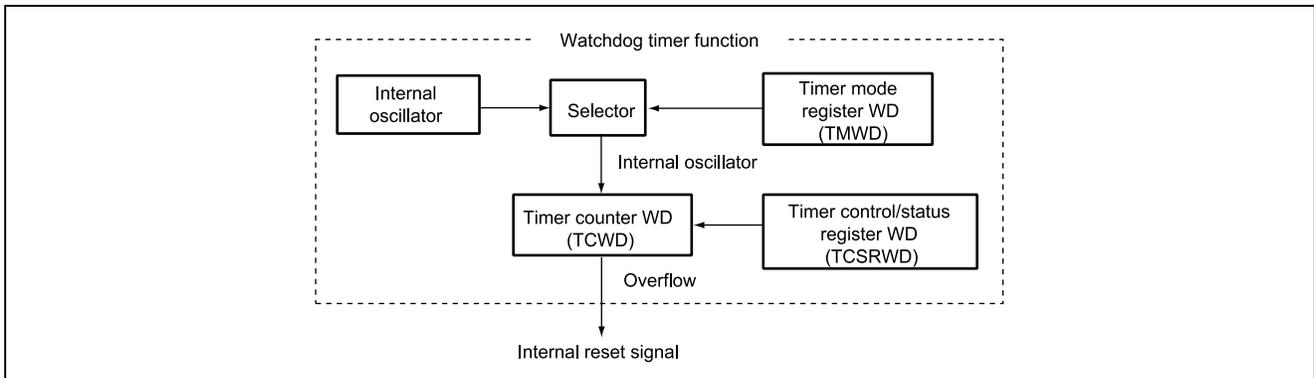

Figure 2.1 Block Diagram of Watchdog Timer Function
1. In this sample task, a watchdog timer operation is implemented using an internal oscillator. Figure 2.1 is a block diagram of the watchdog timer function. The elements of the block diagram are described below.